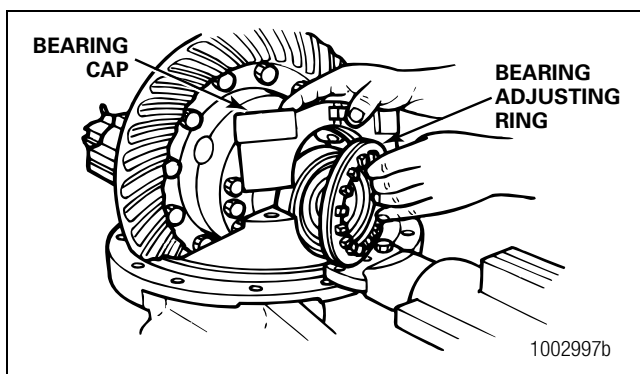

Figure 3.13
8. Remove the bearing caps and bearing adjusting rings from the carrier. Figure 3.13.